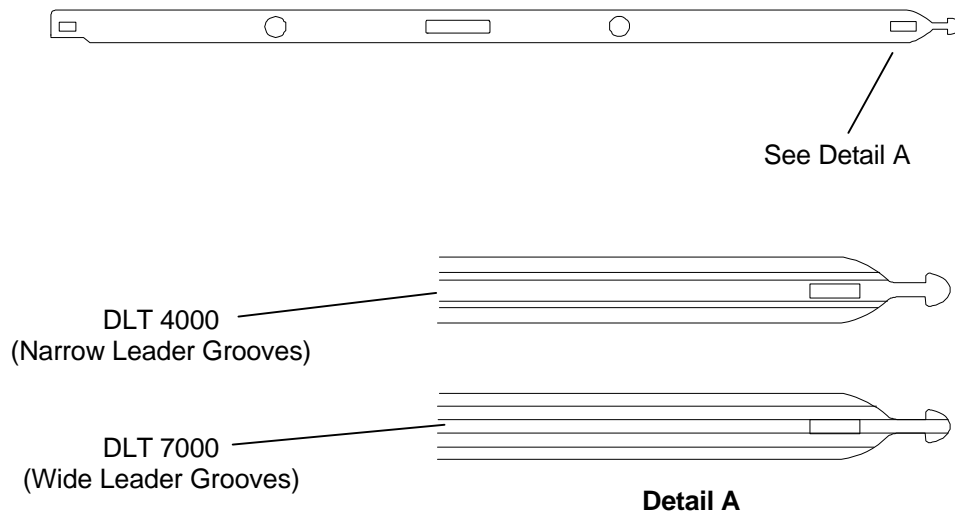

Figure 12 Leader Types
13. Pull the leader to its full length and wipe the entire leader with a lint free cloth pad dampened with isopropyl alcohol. **Do not use solvents. Wipe only the leader. Do not touch the rollers or heads.** If the leader is not damaged and appears to be free of scratches it can be re-attached to the buckling mechanism of the drive. If the "Mushroom" tip is bent, torn or missing, the leader must be replaced. The leader must also be flat (not bowed or curved). If the leader is in need of replacement, please contact Qualstar Customer Service at (818) 592-0061 for assistance. The visual differences between the DLT 4000 and 7000 leaders are shown in Figure 12. Proceed to step 14 to begin re-attaching a leader.